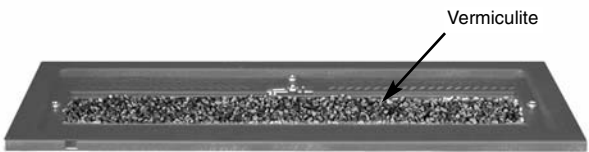

Fig. 34
1. Fill the burner with the vermiculite supplied (Fig. 34).